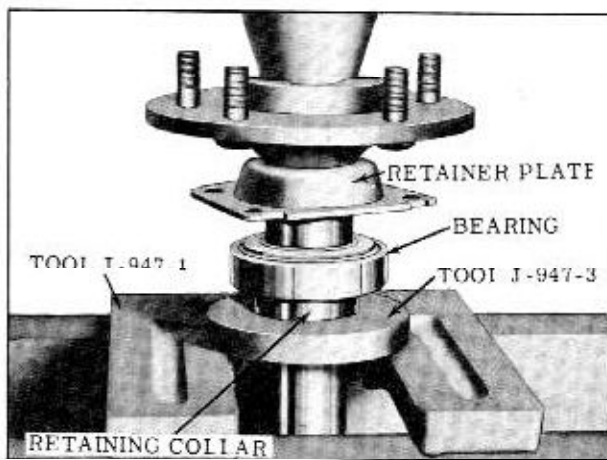

Fig. 5-26 Installing Axle Shaft Bearing Retainer
1. Using Tool J-947-3 in conjunction with plate J-947-1, press bearing over axle shaft being sure that pressure is applied to inner race of bearing. After bearing has been pressed firmly against axle shaft shoulder, press new bearing retainer collar over axle shaft until it is firmly seated against bearing. (Fig. 5-26) Do not damage shaft oil seal surface.